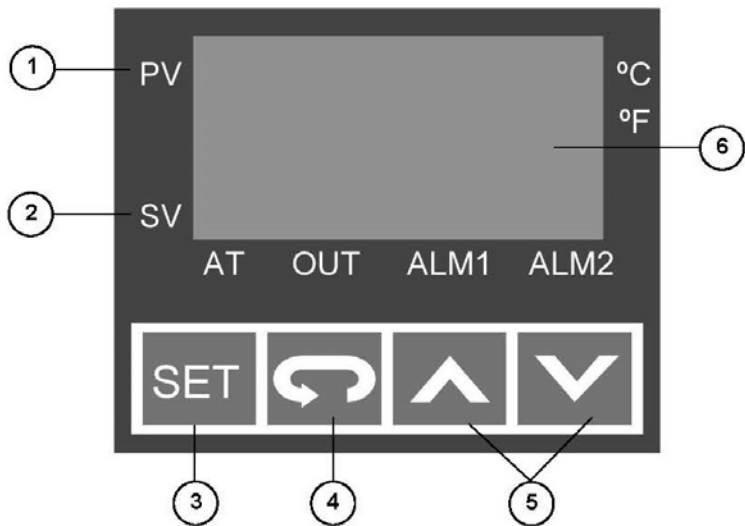

Figure 8: Front View – Temperature Controller
3. To change the temperature Set Value “SV”, press either UP or DOWN arrow (Item 5, Figure 8).
5. Use the UP or DOWN arrows (Item 5, Figure 8) to change the number to the desired value (Holding the buttons down continuously will result in rapid change of the value).
6. Once the desired value is established, press the set key (Item 3, Figure 8) to save the changes and the numbers will return to normal NON-FLASHING numbers.